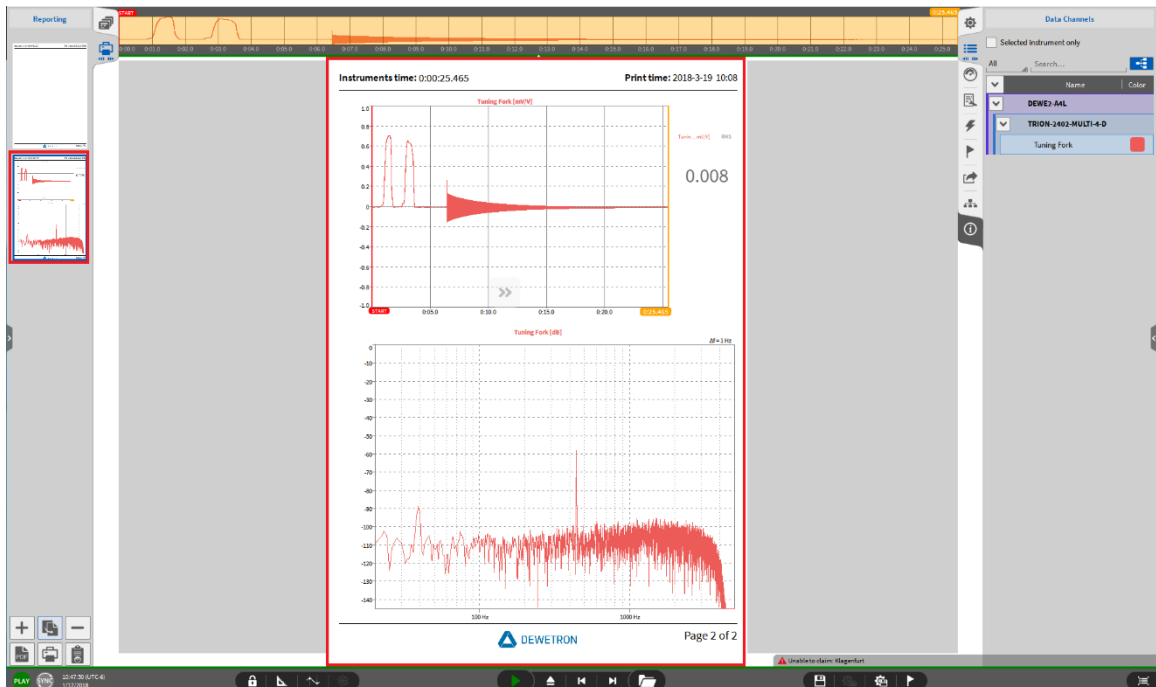

Figure 11-5: Measurement screen added to the report
- o The entire measurement screen is now copied to the report as a new report page (see Figure 11-5):